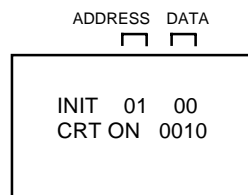

FIG. 1
2. Press both VOL. DOWN button on the set and Channel button **(6)** on the remote control for more than 2 seconds. ADDRESS and DATA should appear as FIG 1.